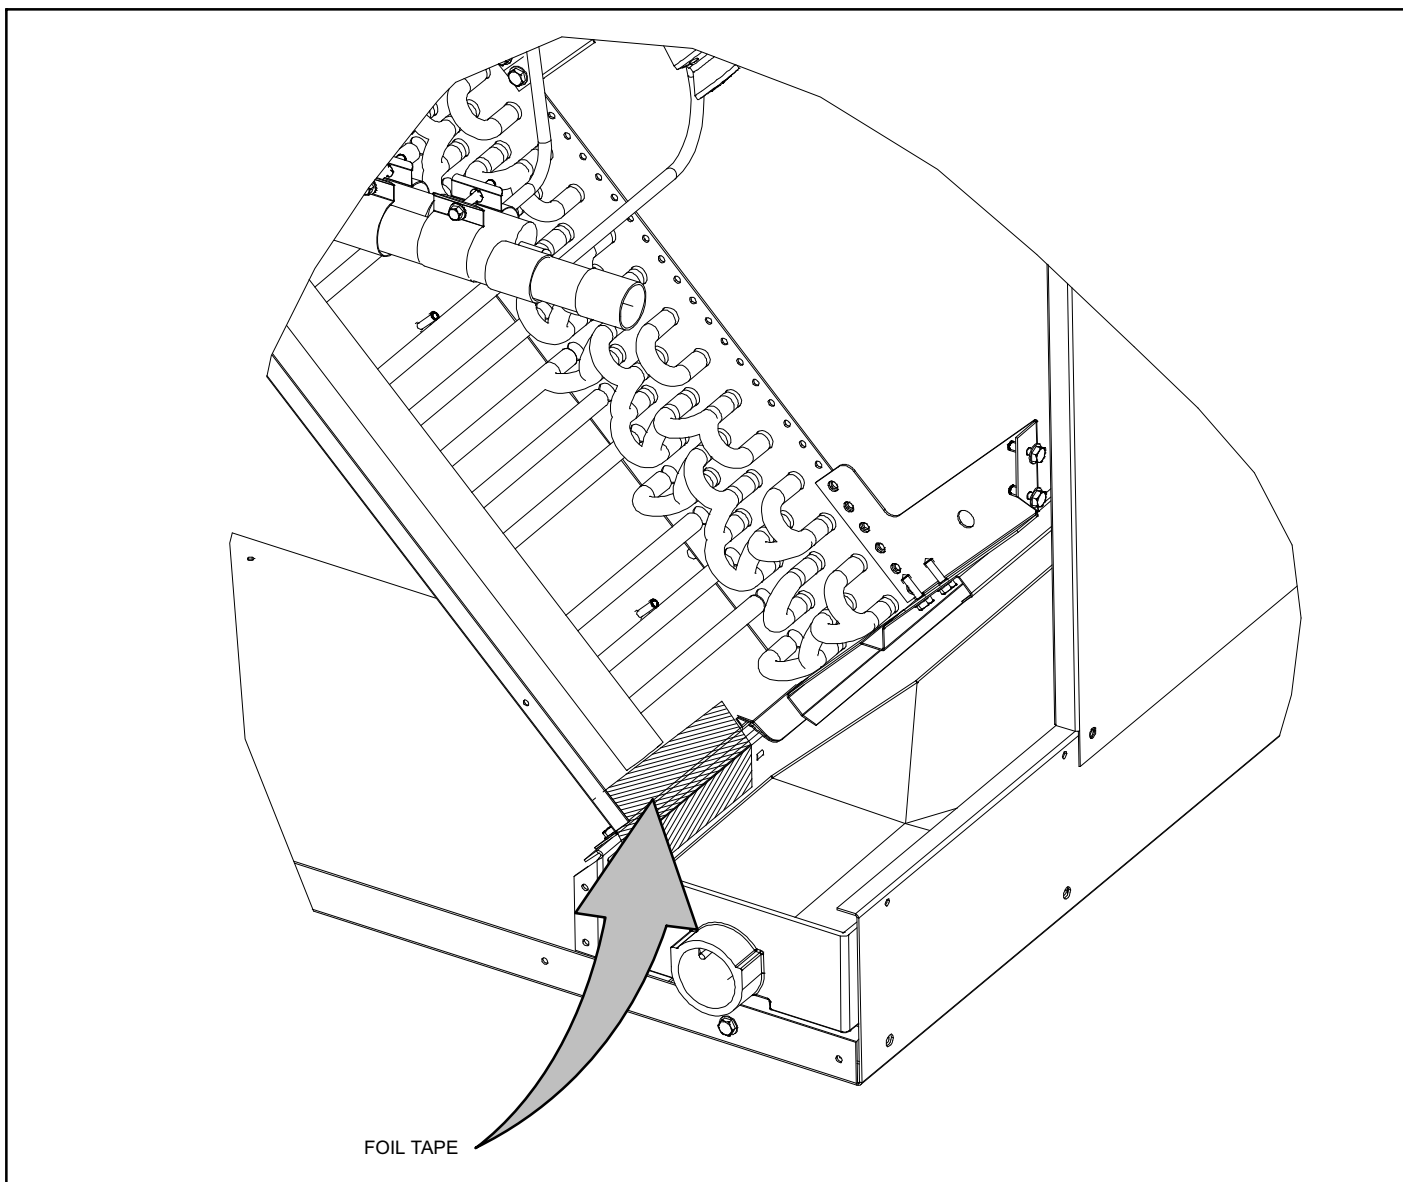

Figure 8. Applying Foil Tape to Coil Support
14. Apply foil tape to coil support under manifolding (see figure 8).